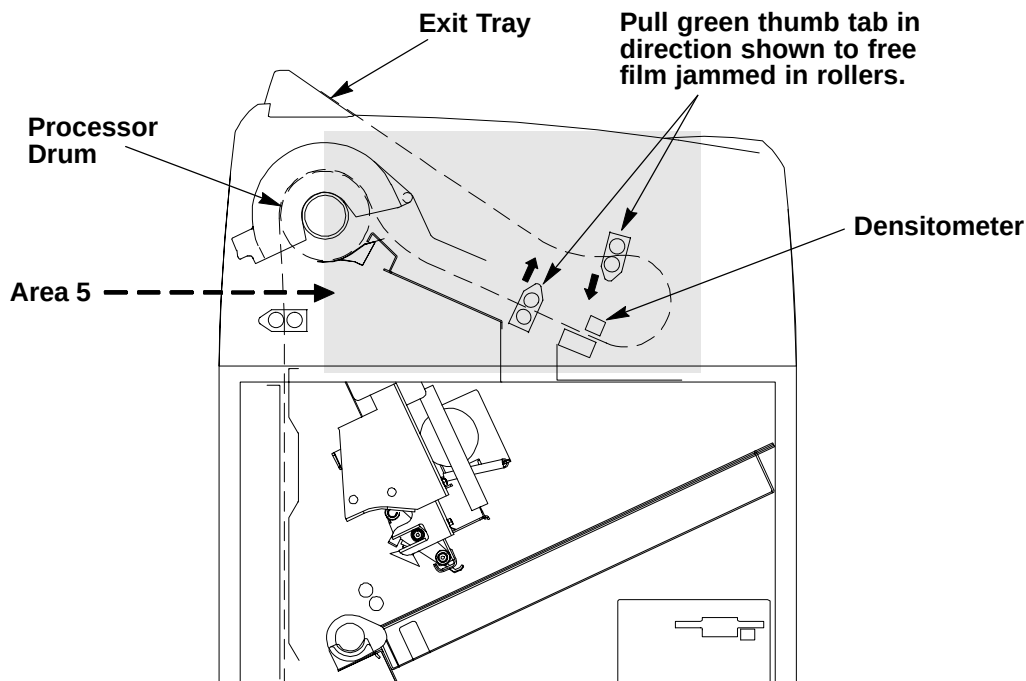

Figure 5-7. Jam Area 5
Area 5 consists of the components between the processor drum and the film exit tray (see Figure 5-7). Jams can occur in this area between the drum and the densitometer, or in the densitometer.
2. Clear the jammed film. (There may be more than one sheet.) If film is jammed in the drive rollers (see Figure 5-7), use the green thumb tab to open the rollers and free the film.